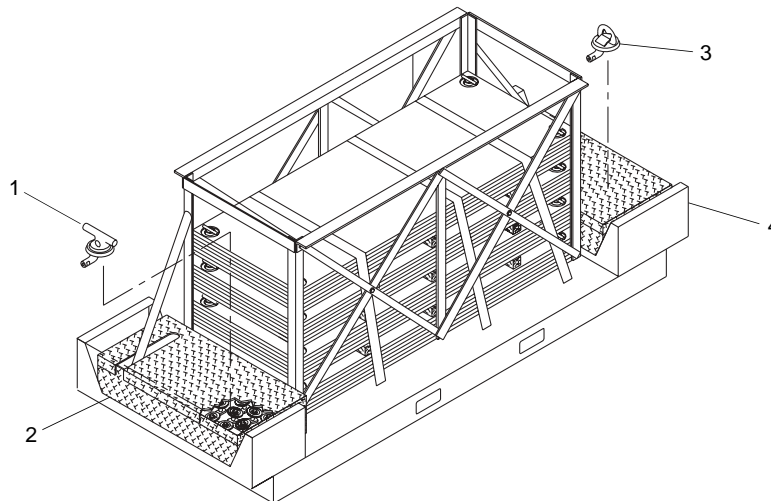

Figure 33. D-Ring and Deck Cleat Stowage
15. Place all deck cleat fittings (figure 33, item 1) in port deck mat pallet toolbox (figure 33, item 2).
16. Place all D-ring fittings (figure 33, item 3) in starboard deck mat pallet toolbox (figure 33, item 4).